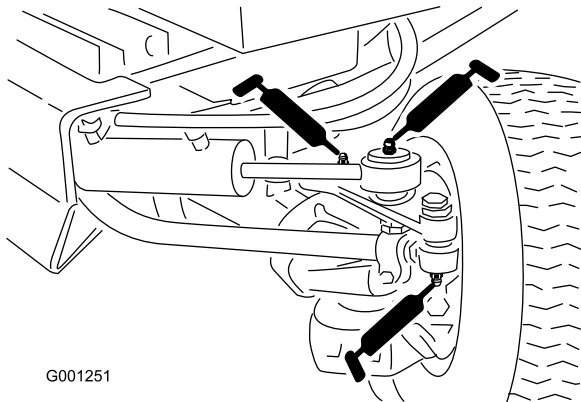

Figure 45
- Tie-rod ends (2) (Figure 45)
- Cylinder-rod ends (2) (Figure 45)
- Steering pivots (2) (Figure 45)
- Axle-pivot pin (Figure 45)